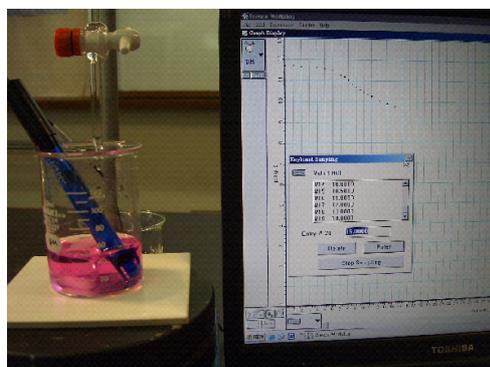

Fig. 3: Setup for pH datalogging
2. Pipette 25 cm^3 of the solution mixture into a small beaker and add 2 drops of phenolphthalein indicator. Place a stirrer bar into the alkaline solution and rest the beaker on a magnetic stirrer which is covered by a white tile. Switch on the magnetic stirrer. Lower the pH electrode into the alkaline solution, ensuring that the glass bulb is completely immersed while the stirrer bar is spinning smoothly (see Fig. 3).